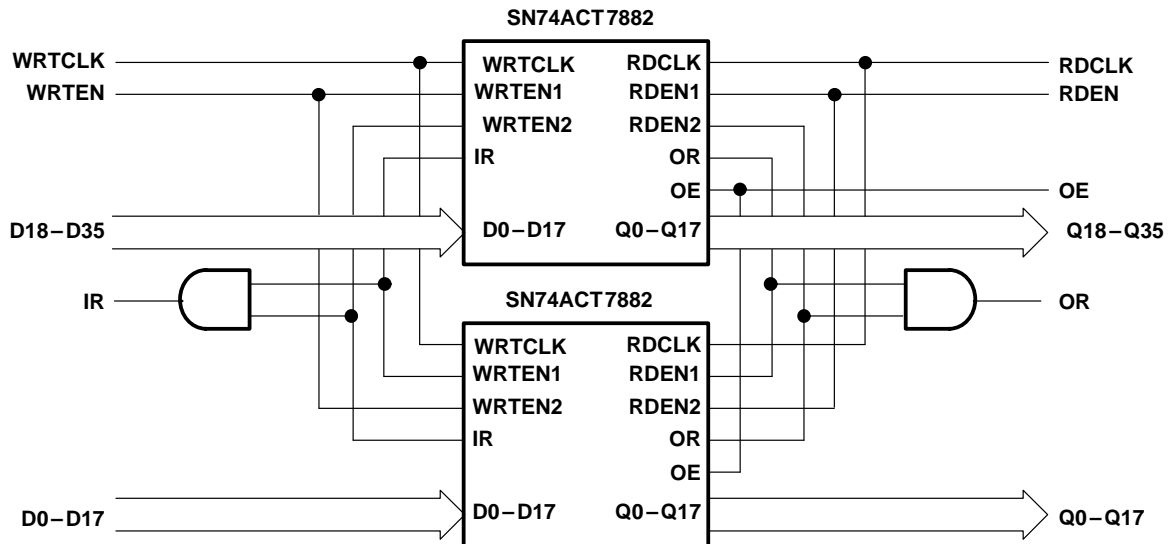

Figure 10. Word-Width Expansion: 2048 Words × 36 Bits
Figure 10 is an example of two SN74ACT7882 devices in word-width expansion. Width expansion is accomplished by simply connecting all common control signals between the devices and creating composite input-ready (IR) and output-ready (OR) signals. The almost-full/almost-empty flag (AF/AE) and half-full flag (HF) can be sampled from any one device. Depth expansion and width expansion can be used together.